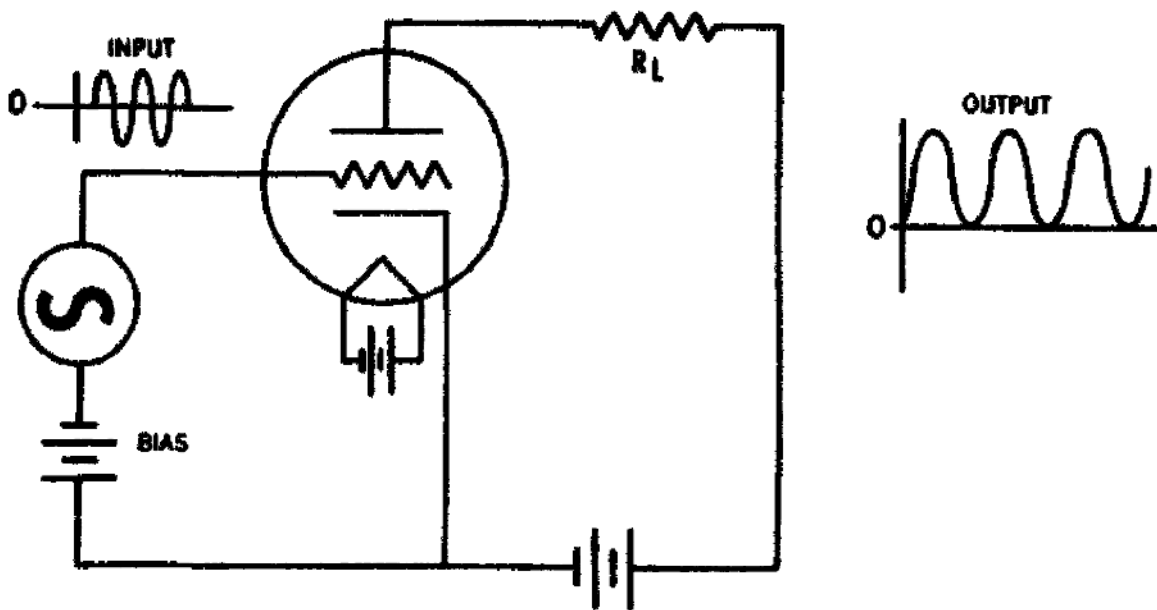

Figure 96. Triode tube operation.
16. The large variations in plate current through the plate load resistor ( $R_L$ ) develops an a.c. voltage component across the resistor which is many times larger than the signal voltage. This process is called amplification and is illustrated in figure 96.